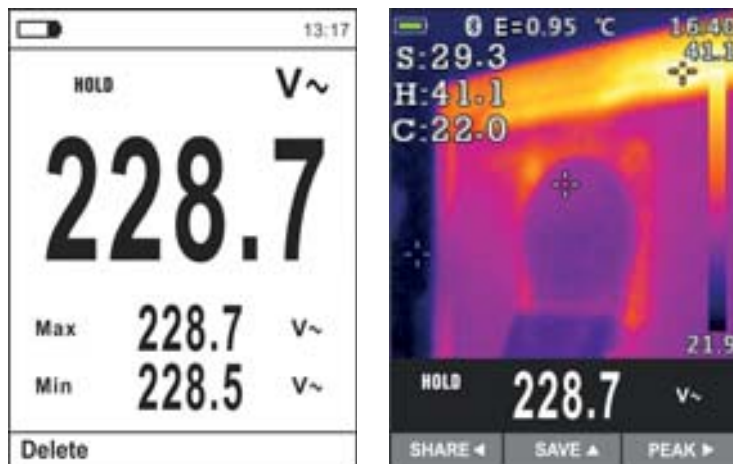

Fig. 19: Deleting and sharing recalled images
28. Press key **HOLD/REL** on the recalled image. The screens in Fig. 19 – left side appear on the display
30. With image fixed at display use the arrow key ◀ and select the option “Share” (only available for IR image screenshots on ECLIPSE) (see Fig. 19 – right side) to share the image on mobile devices through the APP HTMercury and Bluetooth connection